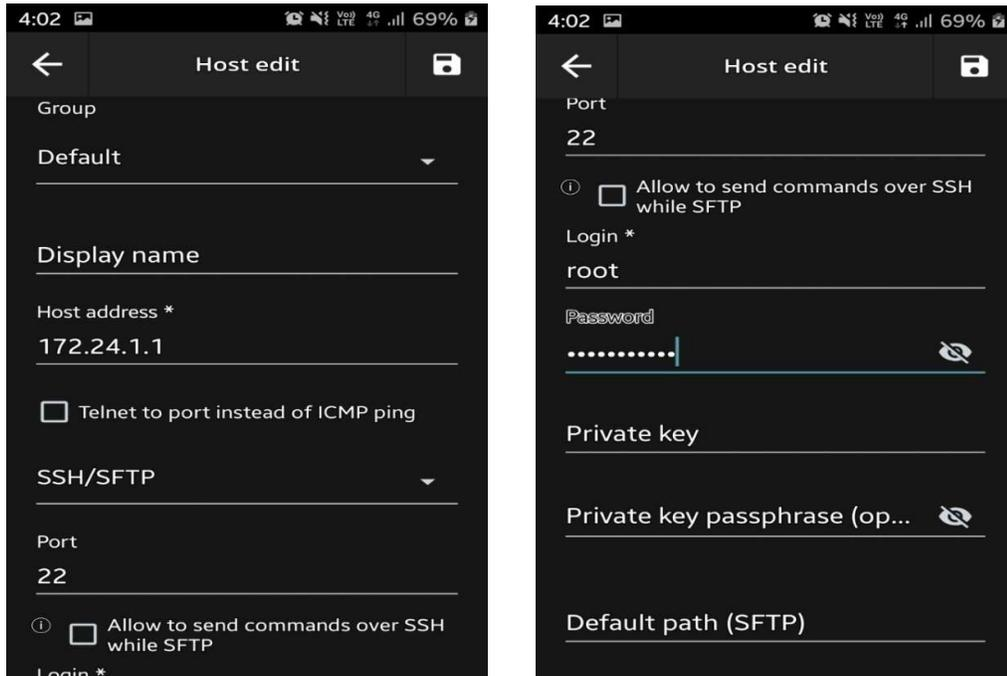

Figure 26: SSH Login Details
- Click on the saved host name as shown in the Figure 26,